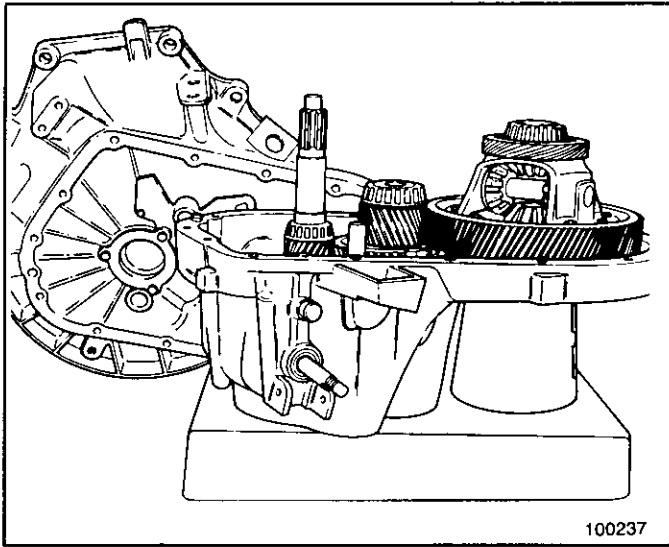

Figure 39 Assemblies in Case
2. With the (3) L.H. bearing races installed in the case, place the input and output shaft assemblies and the differential assembly into their installed positions. Place the (3) R.H. bearing races onto their respective bearings (Figure 39).
3. Position (3) gages; J-26935-2 on input bearing and J-26935-4 onto output bearing and J-26935-3 on the differential bearing. Be sure the bearing